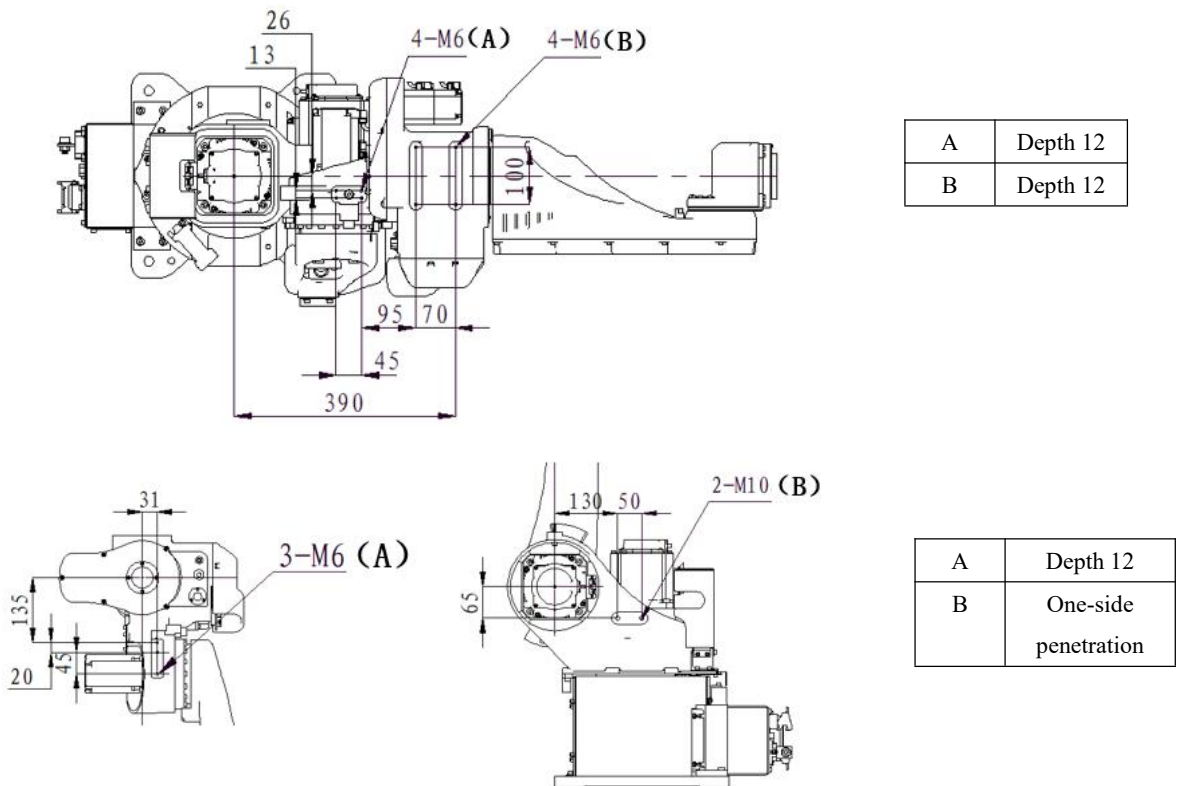

Figure 3.8 SA6/1440H forearm drive box and swivel seat auxiliary installation hole dimensions
3. The dimensions of the auxiliary mounting holes of the SA6/1440H forearm drive box and swivel seat are shown in Figure 3.8.